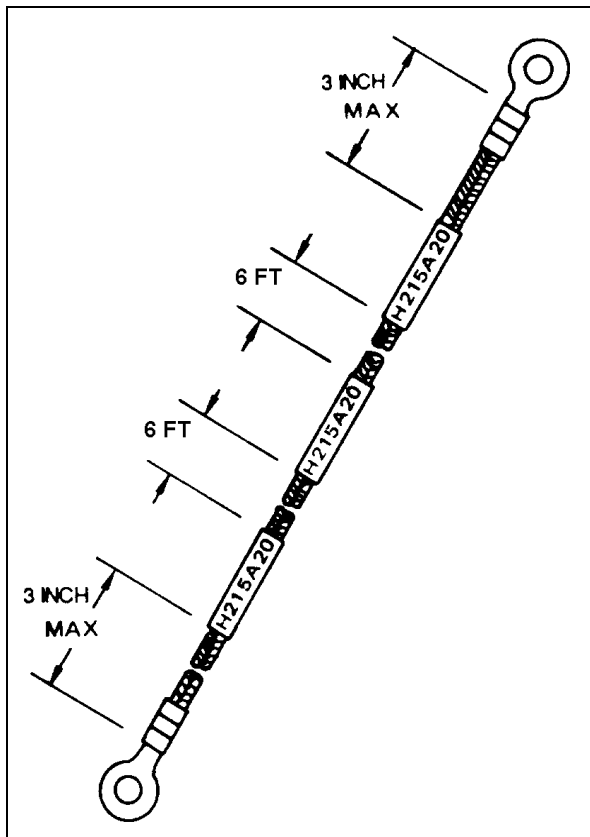

FIGURE 11-24. Spacing of printed identification marks (indirect marking).
b. Indirect marking is accomplished by printing a heat-shrinkable sleeve and installing the printed sleeve on the wire or cables outer covering. Indirect-marked wire or cable should be identified with printed sleeves at each end and at intervals not longer than 6 feet. The individual wires inside a cable should be identified within 3 inches of their termination. (See figure 11-24.)